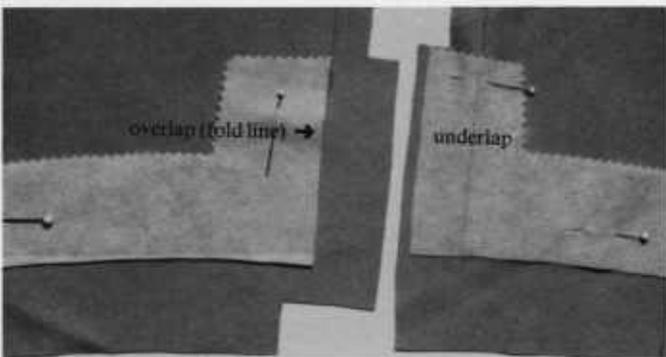

figure 17
- To stabilize garment back hem and sleeve hem areas, cut hem interfacings to extend from hemline to $1/2$ " (1.3 cm) above hem width. Use pinking shears to cut upper edge of the interfacing to prevent a ridge on lightweight wovens and some knit fabrics (figure 17). If the garment back or sleeves have vents, cut the interfacing $1/2$ " (1.3 cm) wider than the vents and the same length as the vent opening.